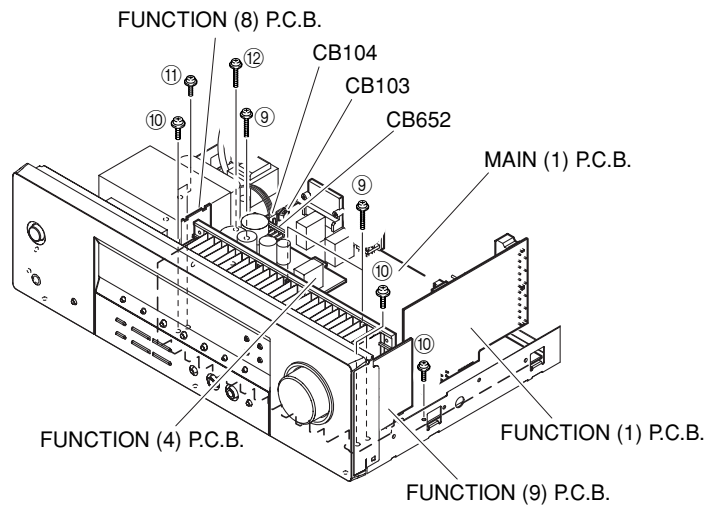

Fig. 5
5. Removal of MAIN (1), FUNCTION (1), FUNCTION (8) and FUNCTION (9) P.C.B.s
- Remove CB103, CB104 and CB652. (Fig. 5)
- Remove 3 screws (9). (Fig. 5)
- Remove 5 screws (10). (Fig. 5)
- Remove MAIN (1), FUNCTION (1) FUNCTION (4), FUNCTION (8) and FUNCTION (9) P.C.B.s. (Fig. 5)
- Remove 4 screws (10). (Fig. 5)
- Remove 1 screws (11). (Fig. 5)
- Remove 1 screws (12). (Fig. 5)